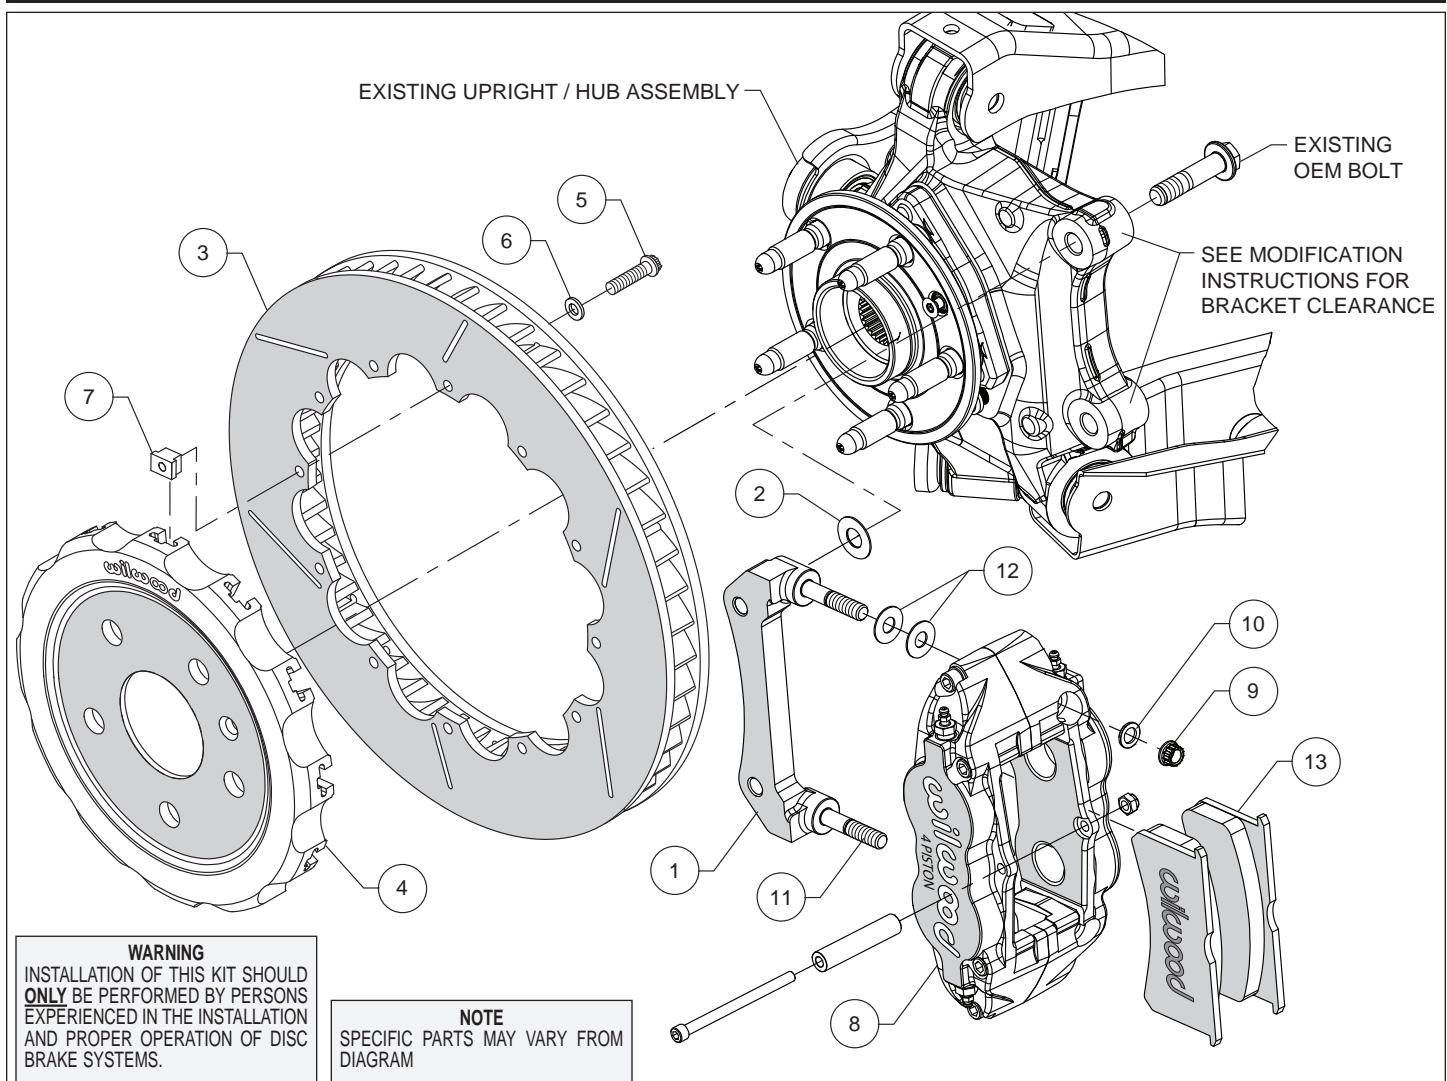
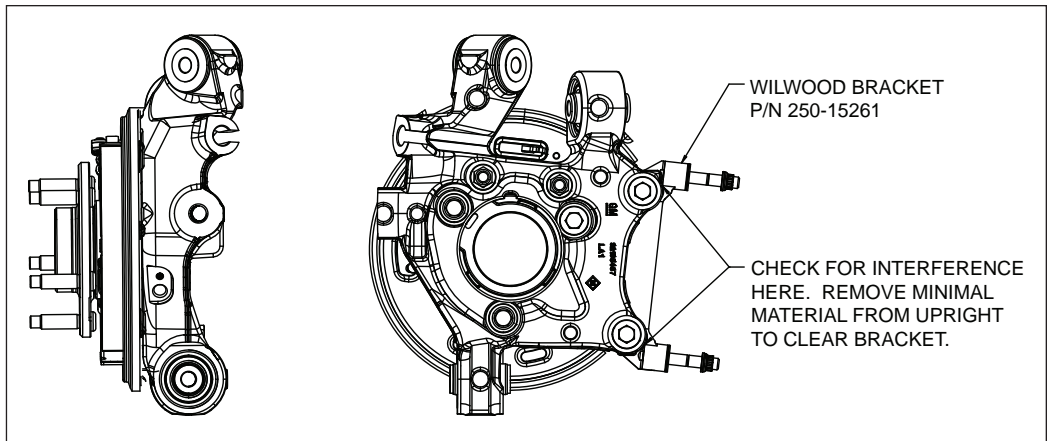
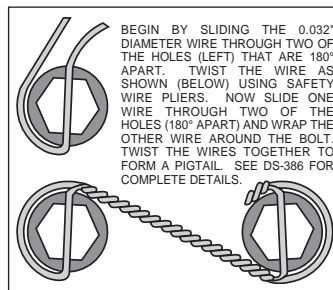

Figure 1. Typical Installation Configuration
Figure 3. Caliper Mounting Tabs Modifications
Figure 4. Safety Wire Diagram
- The OE caliper mounting tabs needs to be modified as shown in Figure 3 to clear the new Wilwood rotor and caliper mounting bracket (1). Temporarily mount the caliper mounting bracket as shown in Figures 1 and 3. Figure 3, Examine the fit of the bracket against the OE caliper mounting tabs and remove just enough material so that the bracket mounts flush.
Assembly Instructions (numbers in parenthesis refer to the parts list and Figure 1 on the preceding pages):
- The caliper mount bracket (1) should initially be installed with clean, dry threads on the mounting bolts. Orient the bracket, as shown in Figure 1 and Photo 1, and install using saved OEM caliper mounting bolts. Initially place one .033" thick shim (2) on each bolt between the bracket and upright, Figure 1. Temporarily tighten the mounting bolts. **NOTE:** The bracket must fit squarely against the mount bosses on the upright. Inspect for interference from casting irregularities, machining ridges, burrs, etc. Later, after the caliper alignment has been checked, the mount bolts will be secured using red *Loctite*® 271.
- Orient the rotor (3) and the hat (4) as shown in Figure 1 and Photo 2. Attach rotor to hat using bolts (5), washers (6), and t-nuts (7), Figure 1. Follow additional instructions included with the bolt kit. Using an alternating sequence, apply red *Loctite*® 271 to the threads, and torque to 120 **in-lbs**. For an added measure of security, the bolts may be safety wired using standard 0.032 inch diameter stainless steel safety wire as shown in Figure 4. Refer to Wilwood's data sheet DS-386 (available at www.wilwood.com/Pdf/DataSheets/ds386.pdf) for complete safety wire installation instructions.
- Lubricate the caliper mounting studs (11) with lightweight oil. Initially place two .035" thick shims (12) on each stud as shown in Figure 1 and Photo 3. Mount the caliper (8) onto the bracket (1) using lock nuts (9) and washers (10), Figure 1. Temporarily tighten the lock nuts and view the rotor through the top opening of the caliper. The rotor should be centered in the caliper, Photo 4. If not, adjust by adding or subtracting shims (2) between the